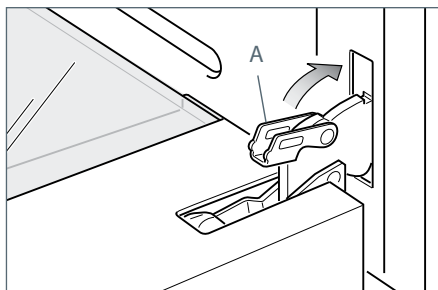

Fig.39d
- 4 Unlock the oven door by opening it completely and closing the lever "A" on the left and right hinges (Fig. 39d).